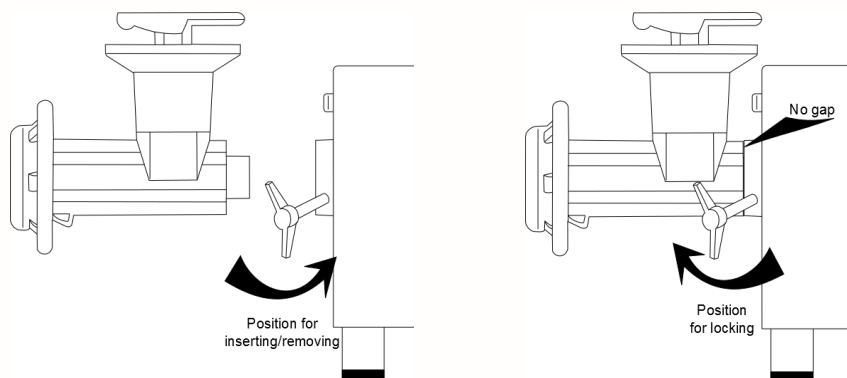

FIG.4 POSITION FOR LEVER HANDLE
1.- Remove the ring (17) turning it counterclockwise and extract the plate (16), Knife (15) and worm (13).
2.- Unscrew the headstock knob (7) (see Fig 4) to be able to remove the headstock (10).
2. Using a soft bristle brush not provided -**See Fig 4**, clean with adequate detergent each component, specially inside headstock (10) to eliminate waste and debris of food.
5. It is important after doing this procedure, to lubricate the knife (15) and plate (16) with the included mineral oil. Assemble again.